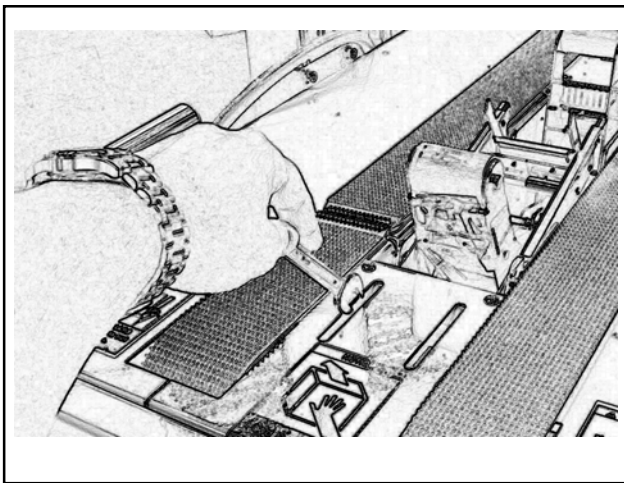

Figure 4-2—Lower Drive Belt Replacement
1. Using a 17 mm open end wrench, loosen, but do not remove the lock nut as shown in Figure 4-2.
1. Using a 17 mm open end wrench, loosen, but do not remove, the M10 lock nut. Refer to Figures 4-2 and 4-3.